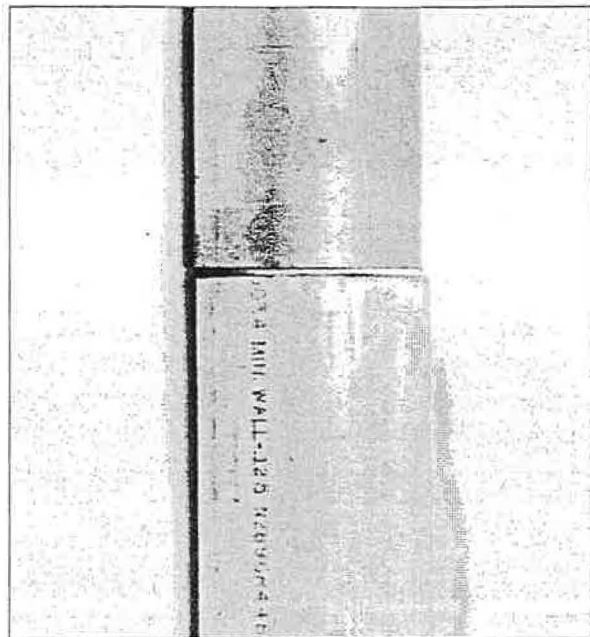
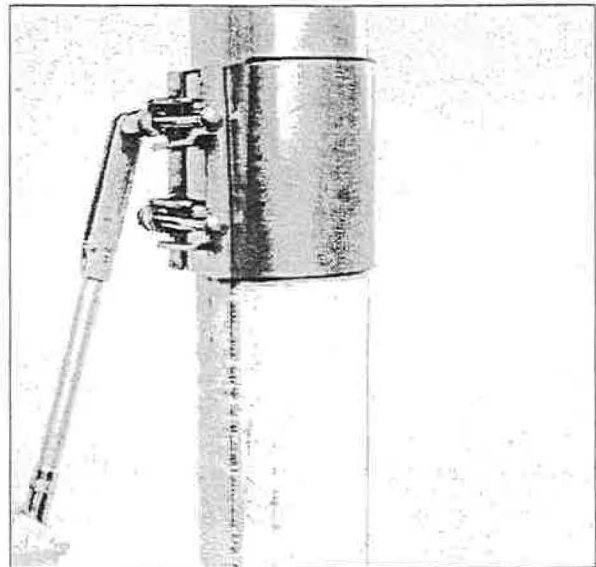

Figure 12
Figure 13
F) Reinstall and/or align the stainless steel portion of the dropleg. The gap between the stainless steel and PVC should be a maximum of 1/8" (3 mm). See Figure 12.
G) Install the clamp coupling or make the flange connection as shown in Figure 13 or 14. The clamp coupling bolts should be torqued to 50-55 ft•lbs (70-75 N•m).
Nearly all installations have the PVC and stainless steel pipe sections mating as plain ends (Figure 12) connected with a stainless steel clamp coupling (Figure 13); however, these two sections could mate with a flange connection as shown in Figure 14. If a flange connection is used, the flange overall and socket depths must be considered when cutting the PVC dropleg section.